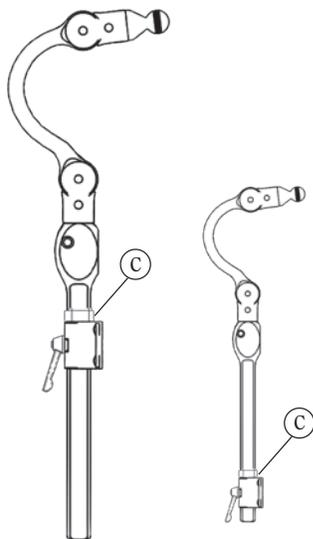

Fig. 2
1. Unsnap horizontal pivot cover (Fig. 2, B). Angle T-handle or ball driver beneath tab and push up and outward. Refer to Fig. 1. Index pin on anti-rotational collar (Fig. 1, C) fits in to slot in top of detach receptacle (Fig. 1, D) to prevent rotation.